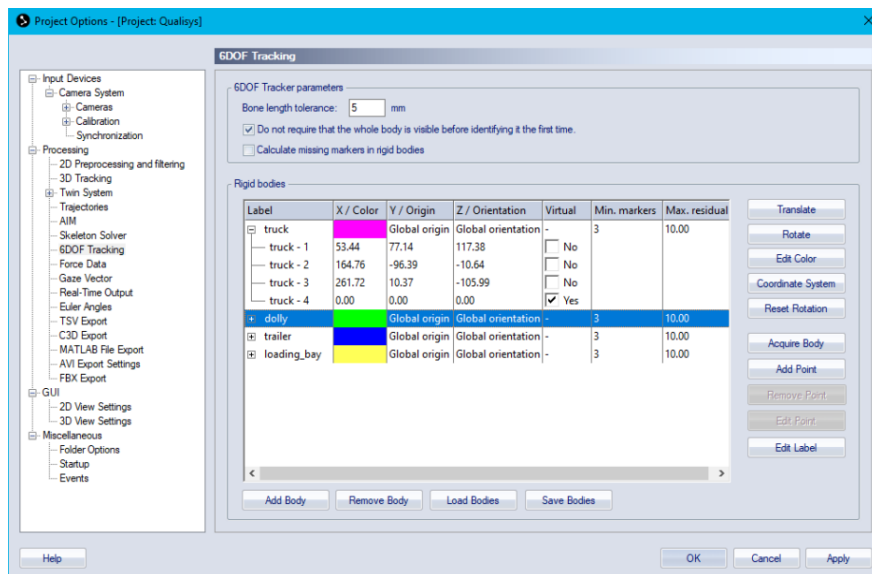

Figure 11: 6DOF Tracking menu
1. Start in the measuring window seen in Figure 11, open Project option using the shortcut *ctrl + .*
3. The user should now be in the 6DOF tracking window as seen in Figure 11. Remove all the predefined bodies.